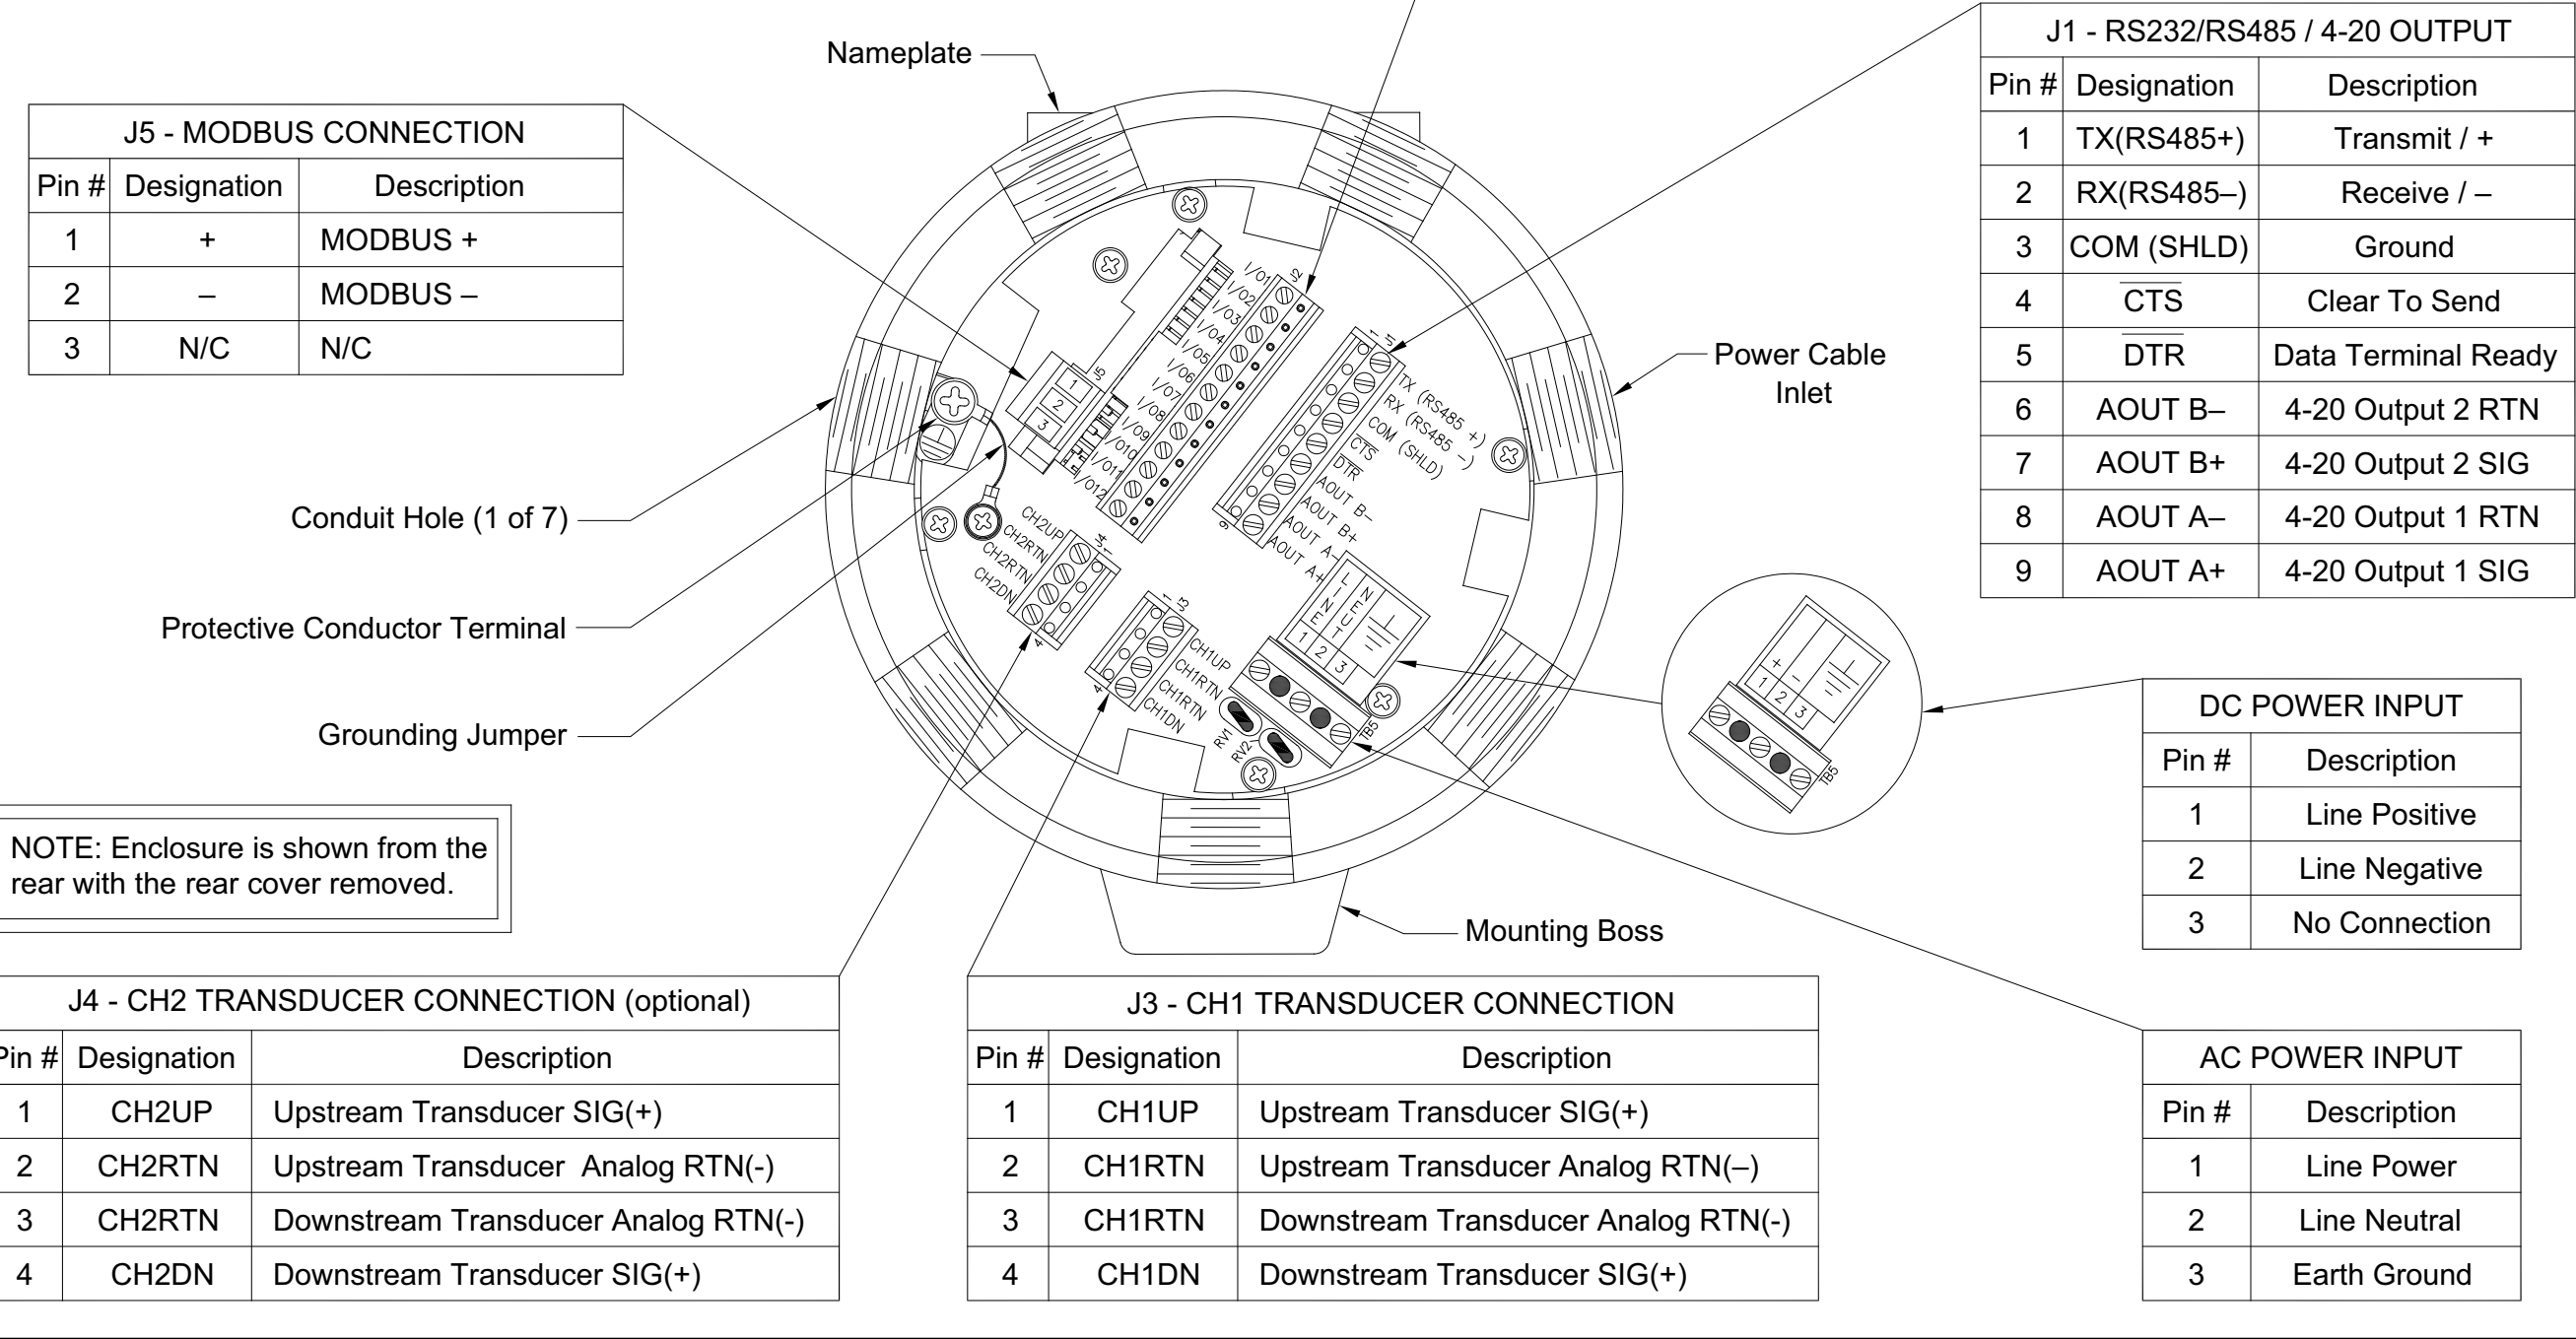

Figure 10:)Model XGS868i Wiring Diagram (ref. dwg #702-646
- 3.** Locate the 12-pin terminal block (J2) in *Figure 10 on page 23* and wire the option card as indicated on the label inside the rear cover (see *Figure 3 on page 6* and *Figure 11 on page 24*). Secure the cable clamp.